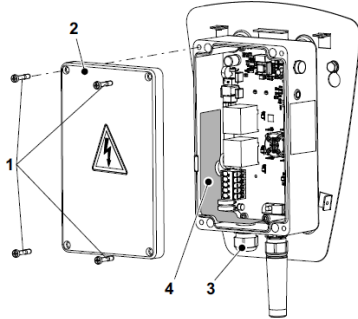

Figure 6: wallbe® LEO, opened electronics housing
1. Remove the four screws (Fig. 6/1) and take off the cover of the electronics housing (Fig. 6/2).
2. Screw the cable gland ESKV25 (enclosed accessories) with the respective gasket EADR25 (enclosed accessories) into the electronics housing (Fig. 6/3) and tighten (approx. 8 Nm).
5. Follow the instructions on the sticker (Fig. 6/4) and then pierce the sticker on the cable entry.
9. Replace the lid of the electronics housing (Fig. 6/2) and tighten the four screws (2.5 Nm).